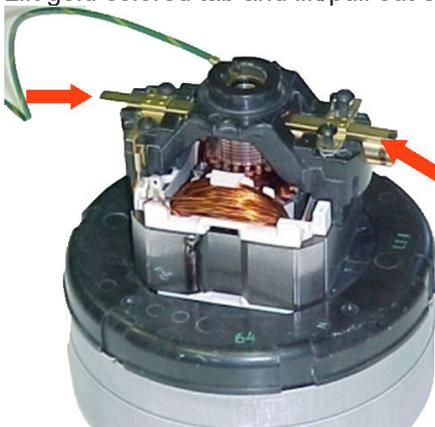

Figure 3 - Brush casings and screws
3. Using a Phillips screwdriver, unscrew the 2 screws holding down each of 2 gold colored brush casings (see Figure 3).